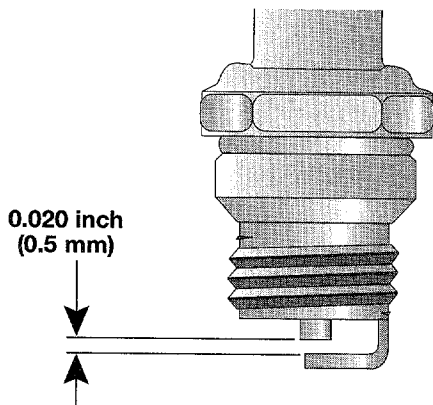

Figure 20
3. Set the air gap at 0.020 inch (0.5 mm) using a feeler gauge. See Figure 20.